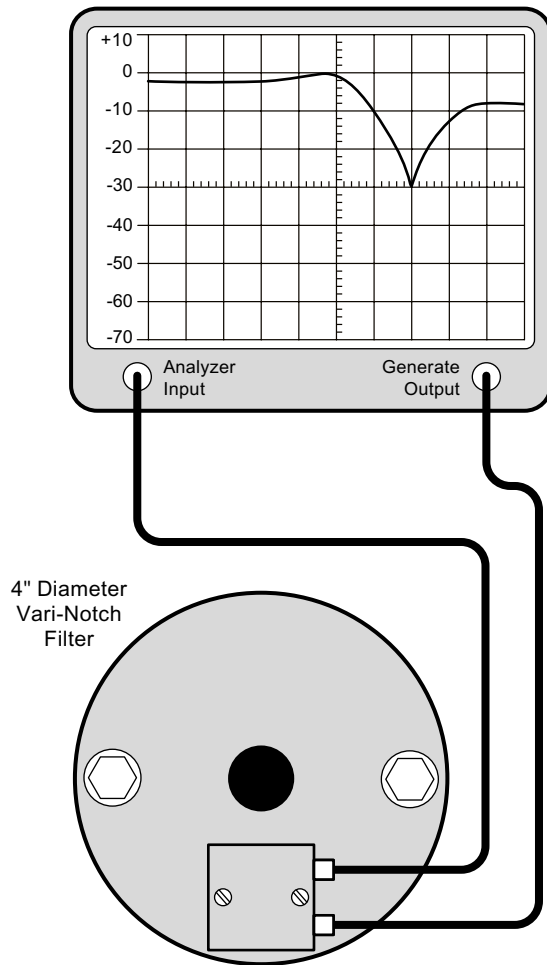

Figure 5: Checking the
1. The rejection notch is checked by connecting the tracking generator to the input of the cavity filter while the spectrum analyzer is connected to the output, as illustrated in **Figure 5**.